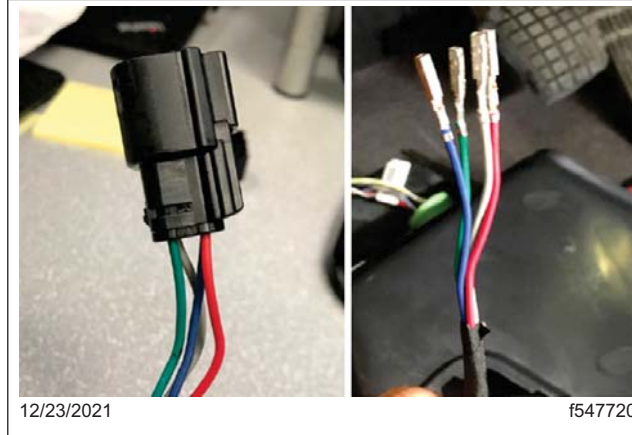

Fig. 10, Battery Load Disconnect Switch Connector
- Temporarily remove the connector, shown in **Fig. 10**, from the battery load disconnect switch end of the new harness. Use tool DK10CHA17002-2 or similar to remove the terminals from the connector. Make note of the cavity position, shown in **Fig. 11**, for each wire for later installation.